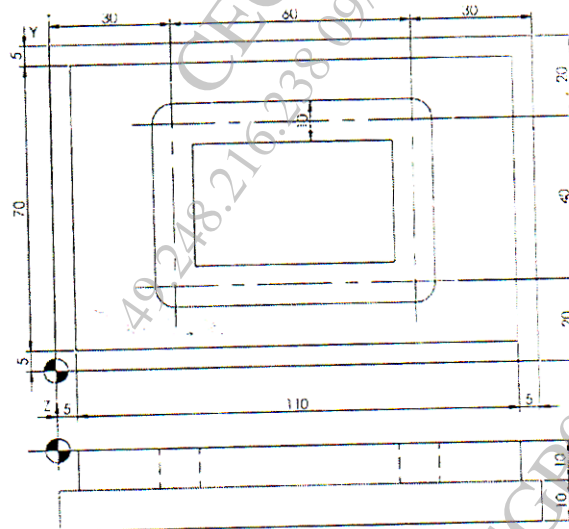

Fig. 3
- Q6) a)** Write CNC program using G and M codes to contour, face and drill the component shown in fig. 3. Use canned cycles wherever applicable. Thickness of blank is 7mm. Assume suitable data for speed and feed. [10]